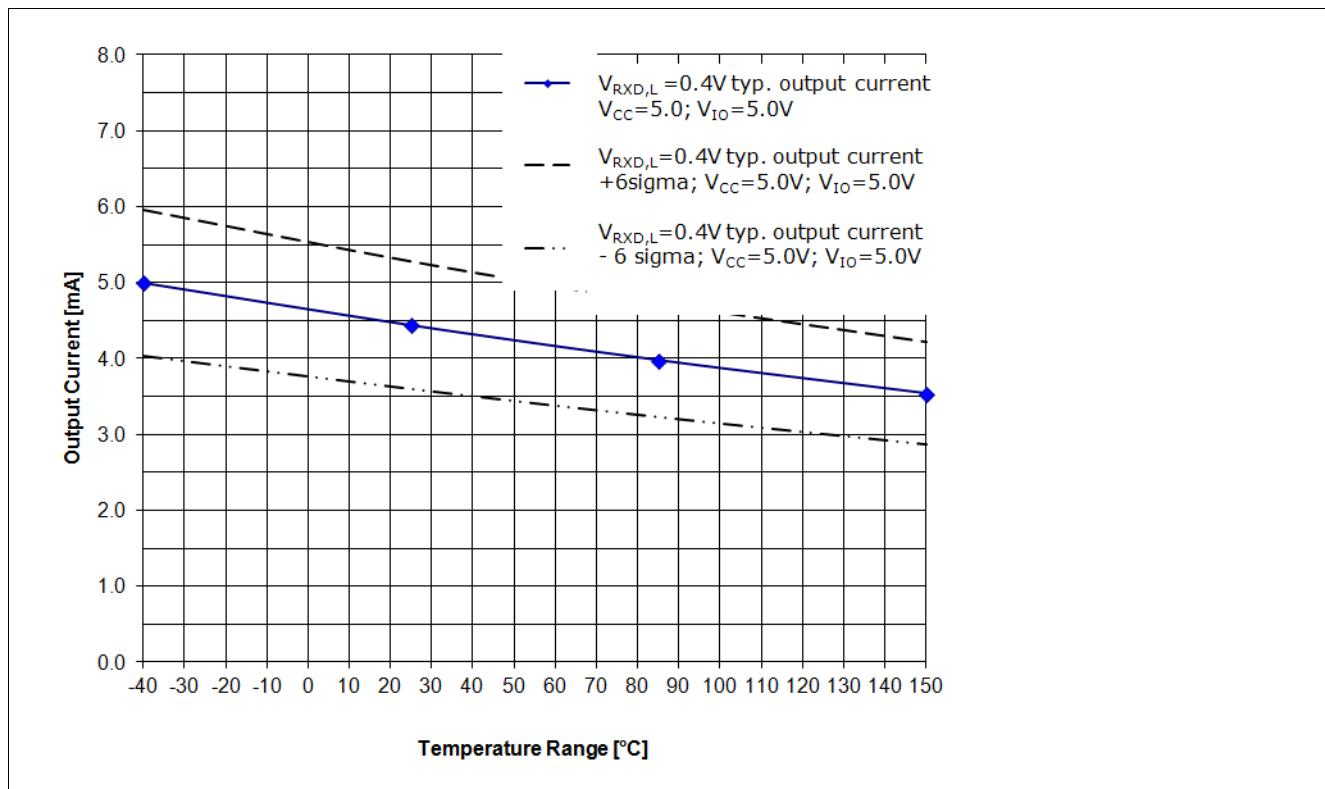
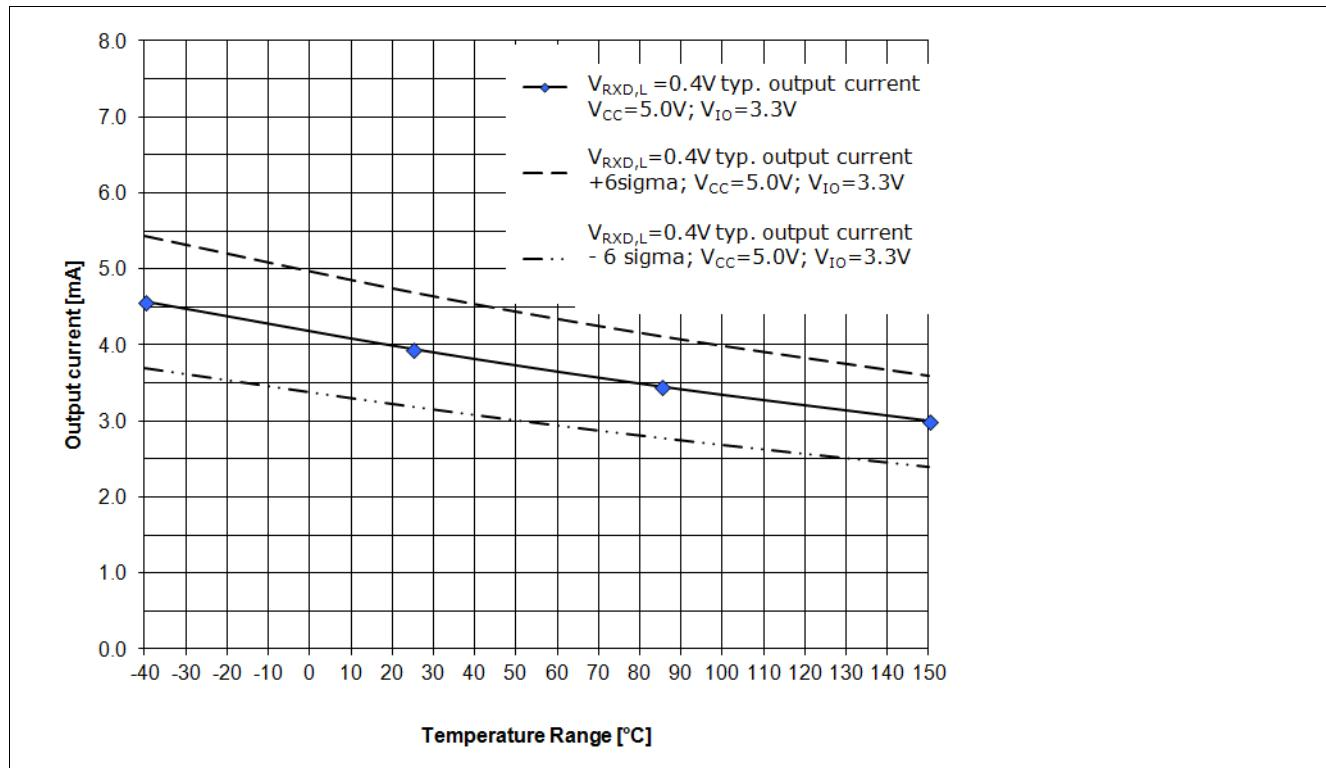

Figure 13 RxD Output driver capability for a logical “Low” signal  $V_{RXD,L}=0.4\text{ V}$ ,  $V_{CC}=5.0\text{ V}$ ,  $V_{IO}=5.0\text{ V}$ 1)
Figure 14 RxD Output driver capability for a logical “Low” signal  $V_{RXD,H}=0.4\text{ V}$ ,  $V_{CC}=5.0\text{ V}$ ,  $V_{IO}=3.3\text{ V}^1$
The diagram in Figure 13 and the diagram in Figure 14 show the current capability of the RxD output pin depended on the chip temperature  $T_J$ . Figure 13 shows the current capability of the RxD output pin at a  $V_{IO}$  power supply of 5.0 V and Figure 14 shows the current capability of the RxD output pin at a  $V_{IO}$  power supply of 3.3 V.
- The curve “VRxD,H = 0.4 V; typ. output current; VCC = 5.0 V; VIO =5.0 V;” displays the typical output current at the RxD output pin of the TLE8250GVIO (see Figure 13).
- The curve “VRxD,H = 0.4 V; typ. output current + 6 sigma; VCC = 5.0 V; VIO =5.0 V;” displays the expected maximum value of the output current at the RxD output pin (see Figure 13).
- The curve “VRxD,H = 0.4 V; typ. output current - 6 sigma; VCC = 5.0 V; VIO =5.0 V;” displays the expected minimum value of the output current at the RxD output pin (see Figure 13).
- The curve “VRxD,H = 0.4 V; typ. output current; VCC = 5.0 V; VIO =3.3 V;” displays the typical output current at the RxD output pin of the TLE8250GVIO (see Figure 14).
- The curve “VRxD,H = 0.4 V; typ. output current + 6 sigma; VCC = 5.0 V; VIO =3.3 V;” displays the expected maximum value of the output current at the RxD output pin (see Figure 14).
- The curve “VRxD,H = 0.4 V; typ. output current - 6 sigma; VCC = 5.0 V; VIO =3.3 V;” displays the expected minimum value of the output current at the RxD output pin (see Figure 14).